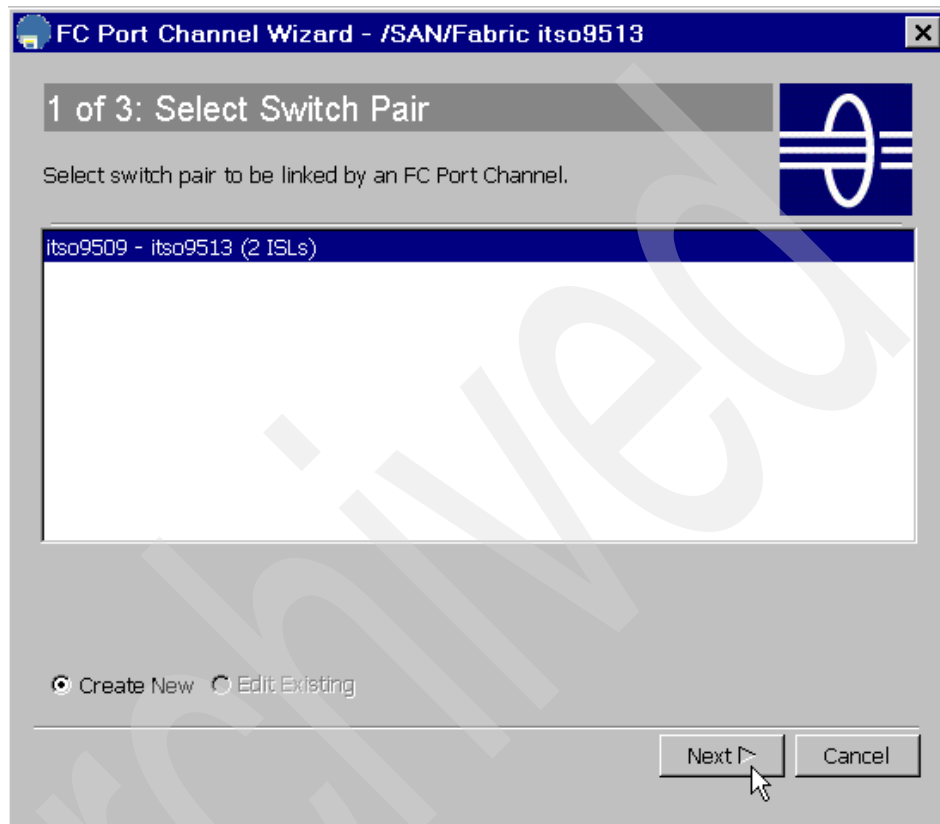

Figure 35 PortChannel panel 1 of 3
2. This opens the PortChannel Wizard series of panels. In the first (Figure 35), we select the switches we want to create the PortChannel between (itso9509 and itso9513). Select **Create New** and click **Next**.